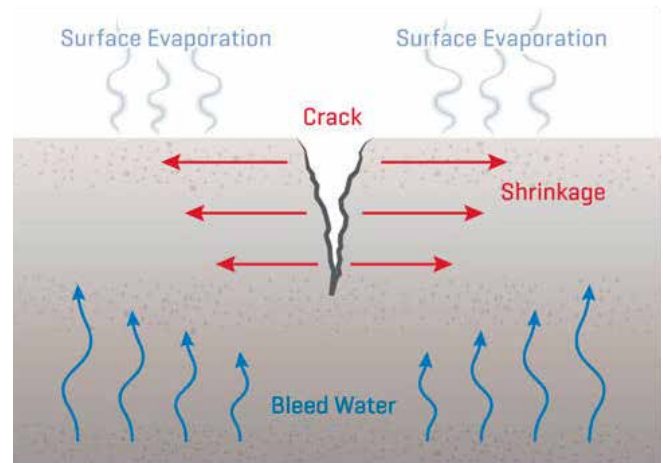

Fig. 1: Visual depiction of how plastic shrinkage cracks form
- **Plastic shrinkage cracking** occurs within the first few hours after placement, while the concrete is still in its plastic state. It develops when moisture evaporates from the concrete surface faster than bleed water can replace it, causing the surface to shrink and crack (Fig. 1).